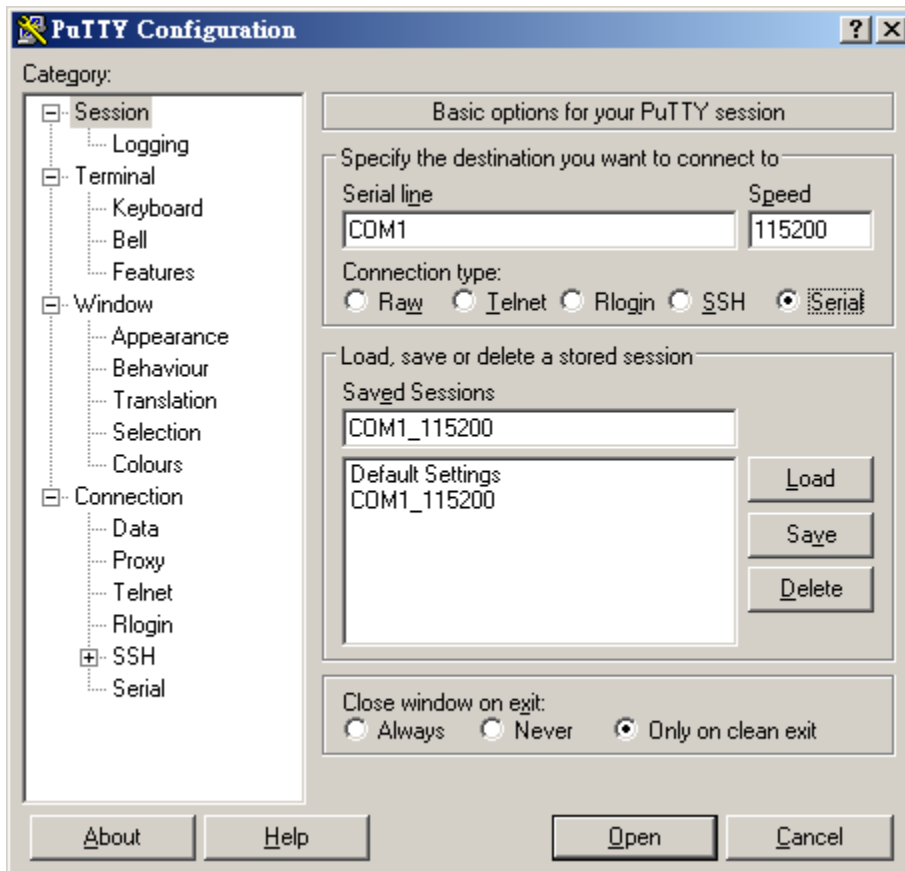

Figure 49: check if serial is selected and then select open
- Go to Session and check if “specify the destination you want to connect to “ is on Serial (See figure 49)